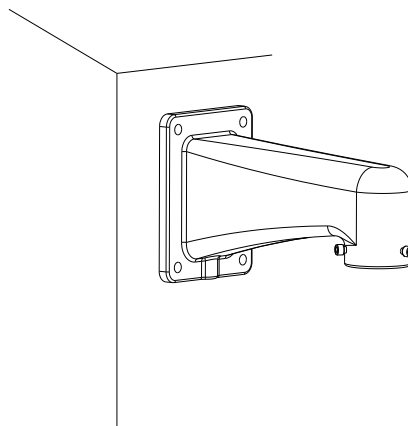

Figure 3-2
1). Please draw four holes position in the wall according to the hole of the bottom of the wall mount bracket. Then you can dig four holes and insert the expansion bolts (not provided). Use four hex bolts and flat washer to fix the bracket in the expansion bolts. See Figure 3-2.